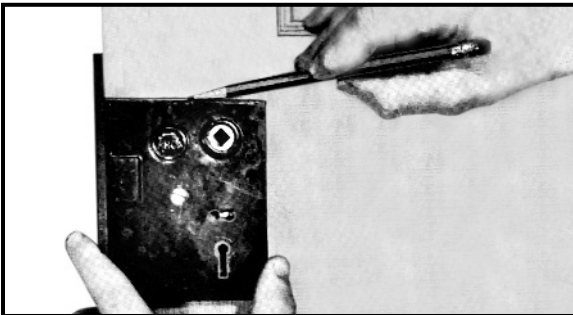

Fig. 10
3. Make a mark on the side of the door at the top of the lock box (See Fig. 10). Transfer this mark to the front edge of the door.